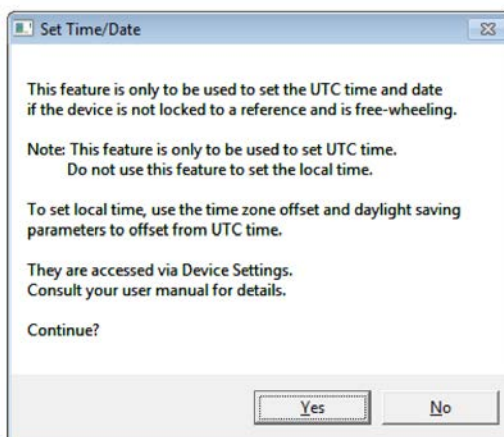

Figure C.72: Set Time/Date
- 10 A message will be shown (see Figure C.72).